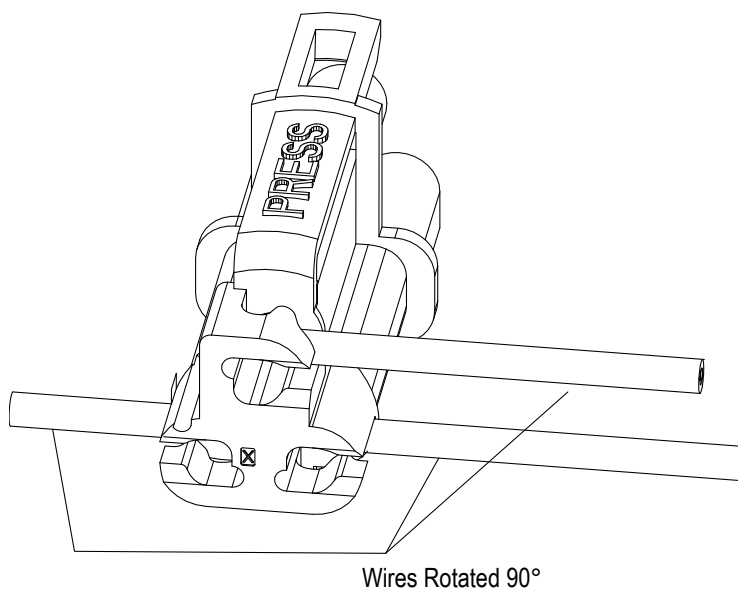

Figure 4
4. Pull the wire down through the slot in the strain relief. See Figure 4.